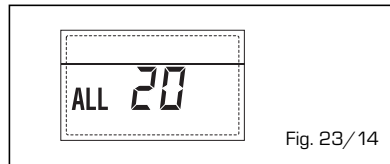

Fig. 23/14
- **ANOMALIA GUASTO SONDA MANDATA PRIMA ZONA MISCELATA "ALL 21" (fig. 23/15)**